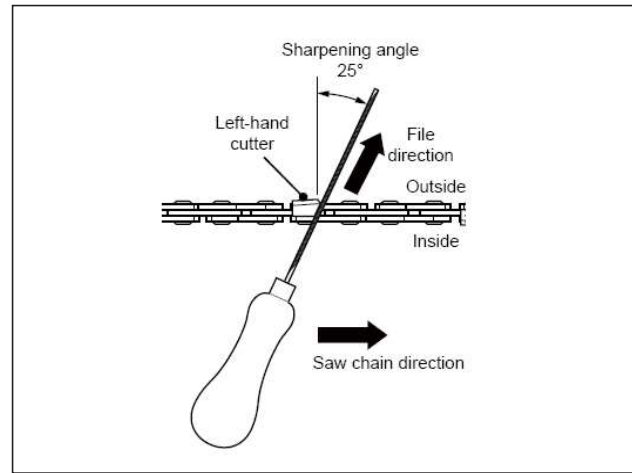

Fig. 36
4. File at an angle perpendicular to the bar, and at an angle of 25° to the direction of travel (Fig.36).